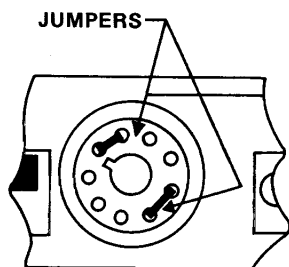

Figure 13
3. Install jumpers between terminals #4 and #5 and between terminals #8 and #9 of each 9-pin socket, XT301 and XT302, Figure 13.